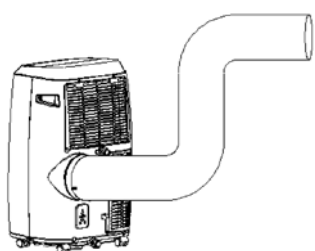

Fig. 6
- 3) As shown in Fig. 6, connect drain hose well (only for using heating model)